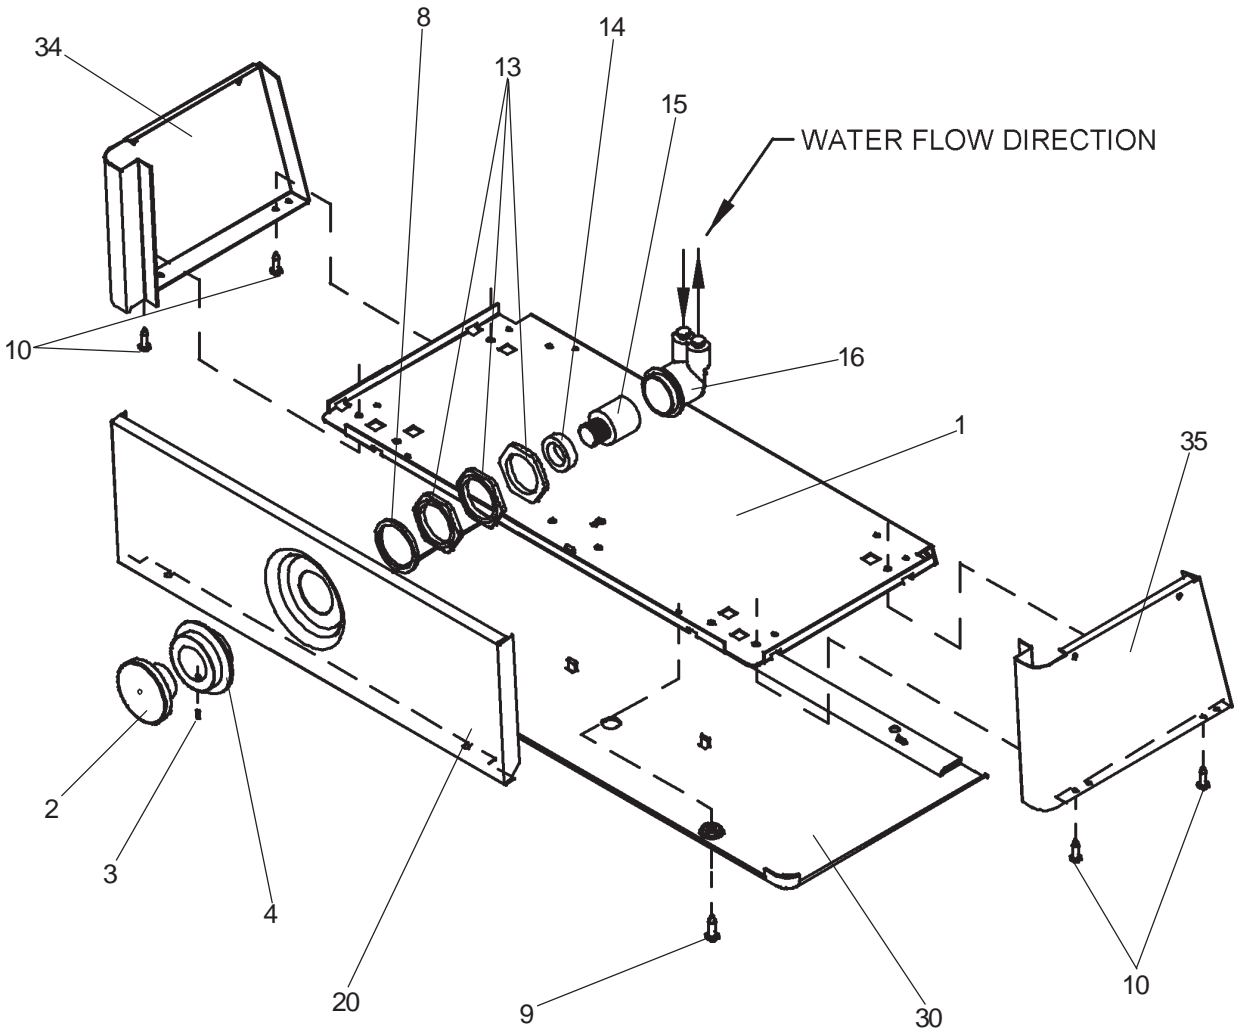

FIG. 3
- 8) Stream height is factory set at 35 PSI. If supply pressure varies greatly from this, adjust the screw on regulator item 15 by using a small screwdriver through the small hole in the push button item 2 (See Fig.3). Clockwise adjustment will raise stream and counter-clockwise adjustment will lower stream. For best adjustment stream should hit basin approximately 6-1/2" (165mm) from bubbler.